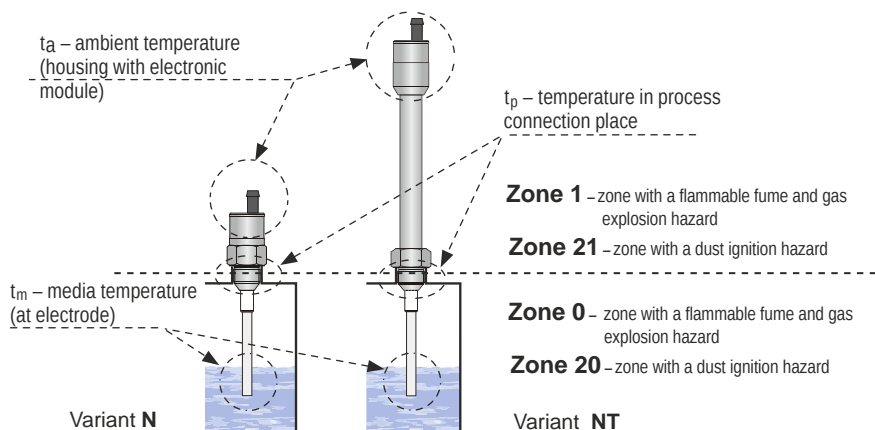

Fig. 20: Illustration of areas for temperature measurement and explosive zones
1) The here-mentioned temperatures are visually explain in Fig. 20.